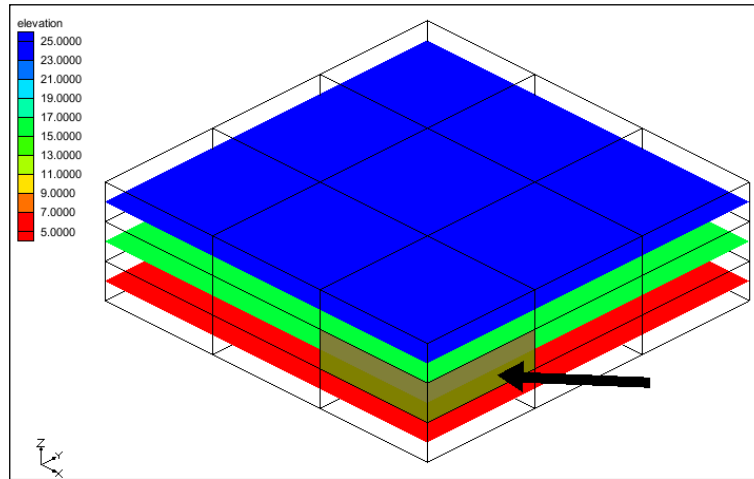

Figure 12 Elevation contours
14. Using the **Select Cells**  tool, select the cell shown in Figure 12 (IJK: 3,3,2).